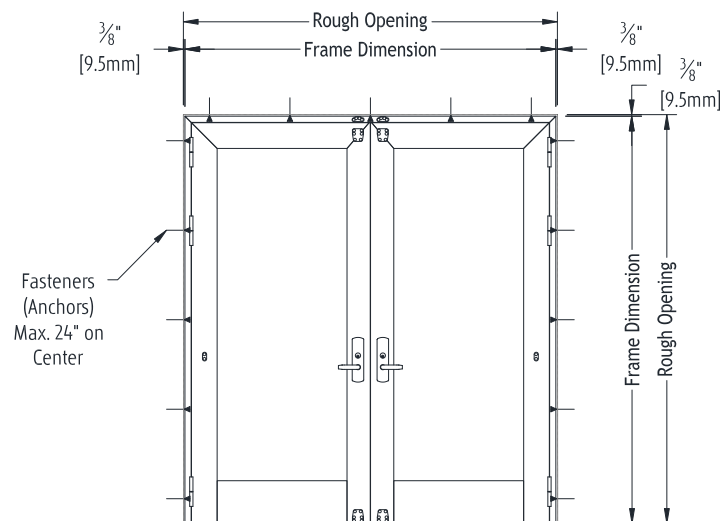

Figure 11 - Typical Frame Elevations
- 4.3 Perimeter anchor fastener installation (Figure 11):